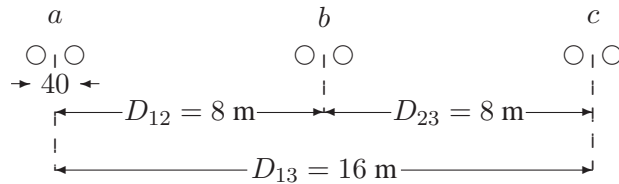

FIGURE 38
- (b) This line is to be replaced by a two-conductor bundle with 8-m spacing measured from the center of the bundles as shown in Figure 38. The spacing between the conductors in the bundle is 40 cm. If the line inductance per phase is to be 77 percent of the inductance in part (a), what would be the *GMR* of each new conductor in the bundle?